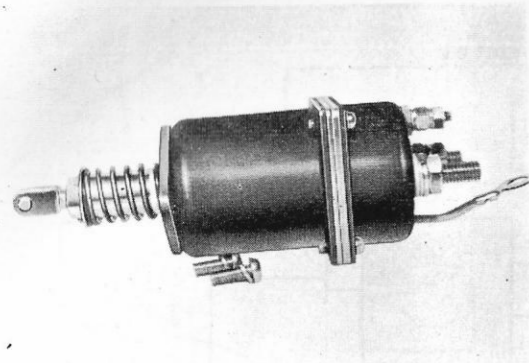

Fig. 10-98
(1) Turn loose the terminal nut on the terminal M of the magnet switch and then, remove the connecting plate from the starter. Then slacken the two bolts fastening the magnetic switch to the gear case. (See Fig. 10-98)